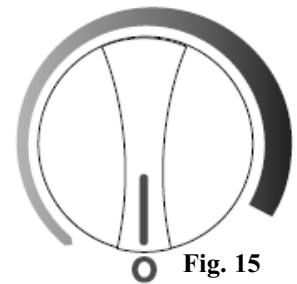

Fig. 15
- To turn off the freezer (no cooling), rotate the control knob to the "0"(off) position. See Fig.15.